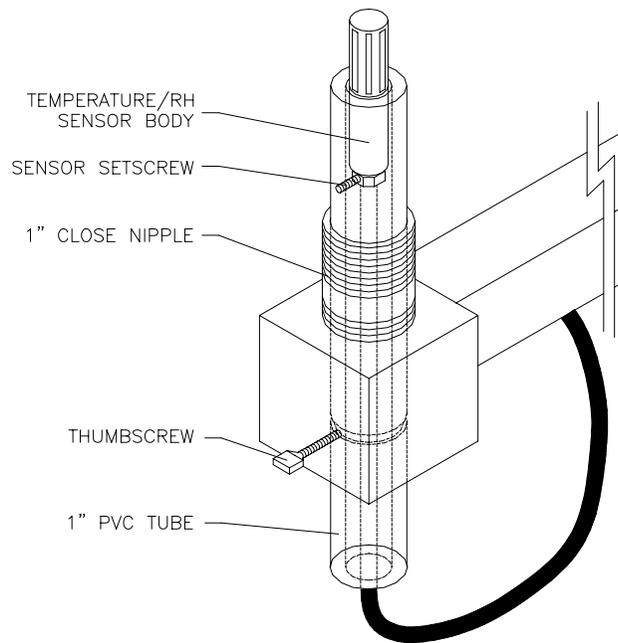

Figure 10-22 T/RH Sensor Removal
6. Loosen the thumb screw at the top of the arm and remove the sensor mounting assembly (1" gray PVC tube) from the arm (see Figure 10-22).